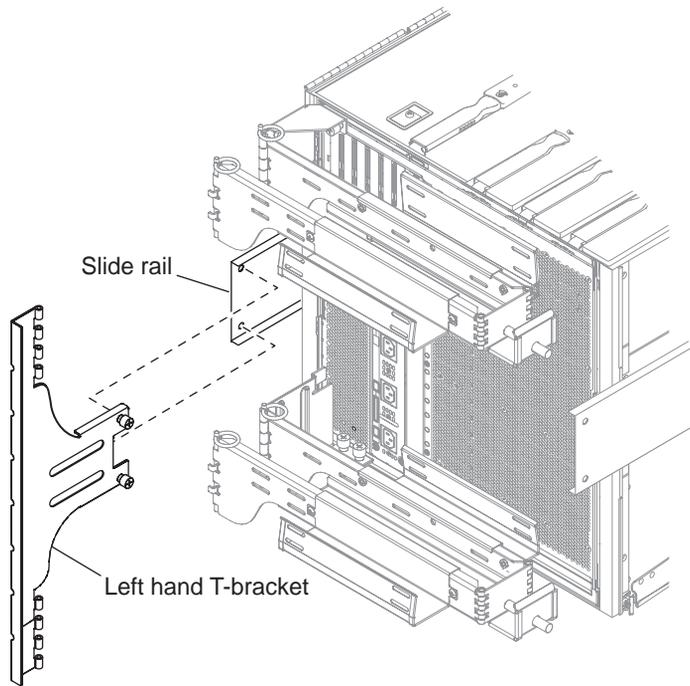

FIGURE 1-23 Attaching the Left-Hand T-Bracket
6. Secure the left hand T-bracket to the left hand slide rail using two captive screws, FIGURE 1-23.